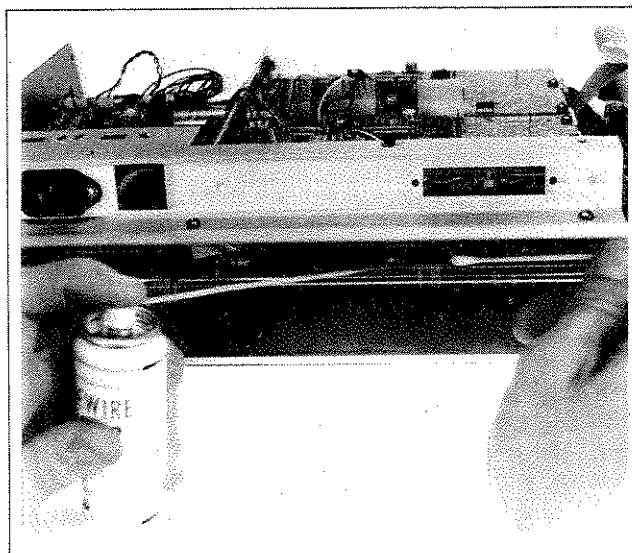

Figure 8-1. Slidewire Cleaning
- c. Spray X-axis wiper contacts with slidewire cleaner (HP Part No. 5080-3605). Spray industrial cotton applicator (HP Part No. 5080-5400) with slidewire cleaner and rub along X-axis slidewire. See Figure 8-1.